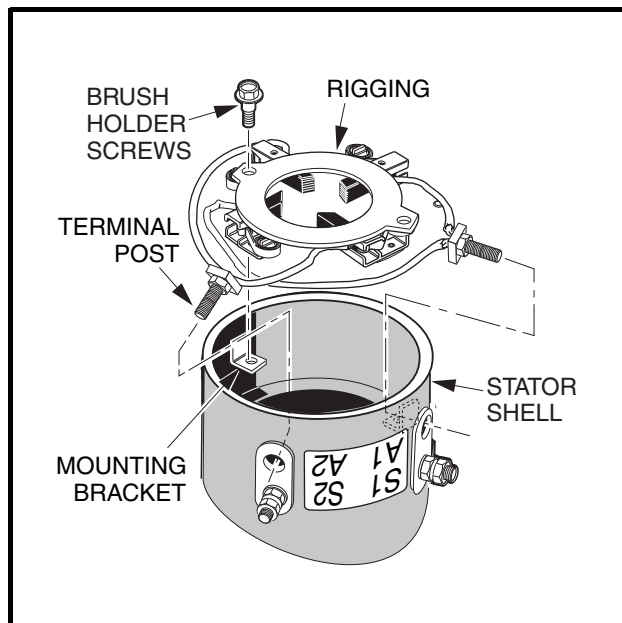

Figure 15-11 Brush Installation
- 2.1. With brush rigging facing down and held slightly above stator shell, insert the two terminal posts through the insulators in the stator shell wall at the A1 and A2 positions. Insert the brush holder screws through the holes in the brush rigging and into the threaded holes in the mounting bracket (**Figure 15-11, Page 15-10**). Tighten the screws to 20 in-lb (2.3 N·m).